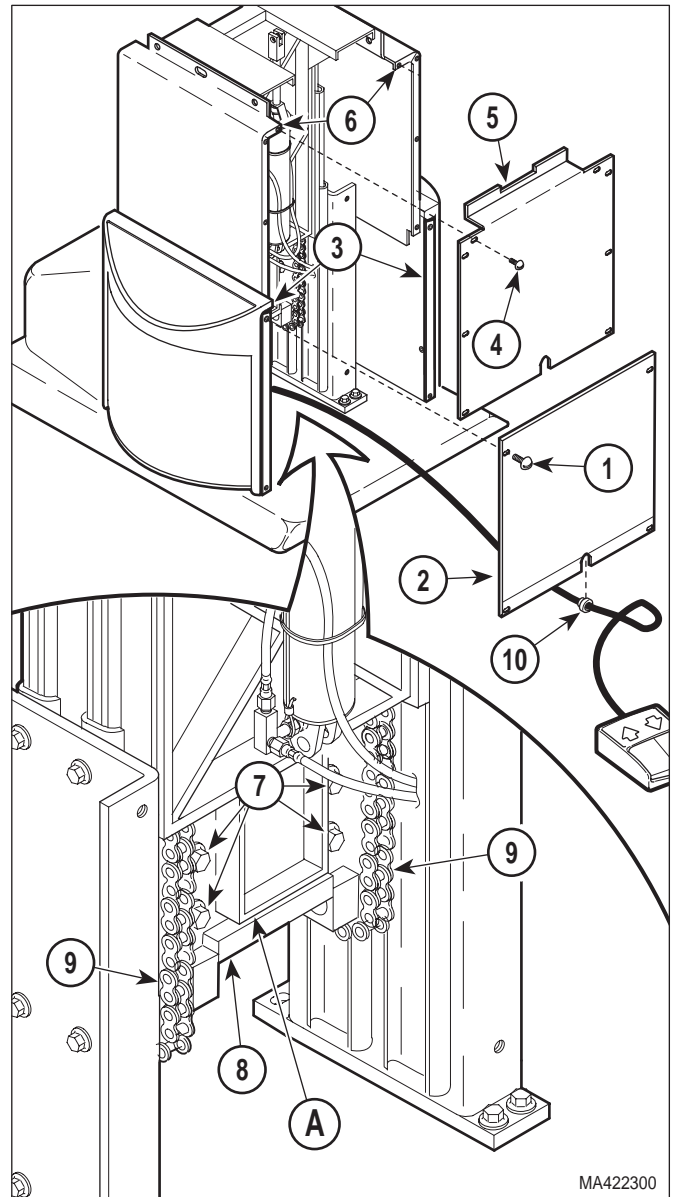

Figure 4-28. Chain Assembly Adjustment
- (1) Raise TABLE UP function all the way up.
- (2) Unplug power cord from wall outlet.
- (3) Remove four screws (1, Figure 4-28) and front outer shroud (2) from left and right hand outer shrouds (3).